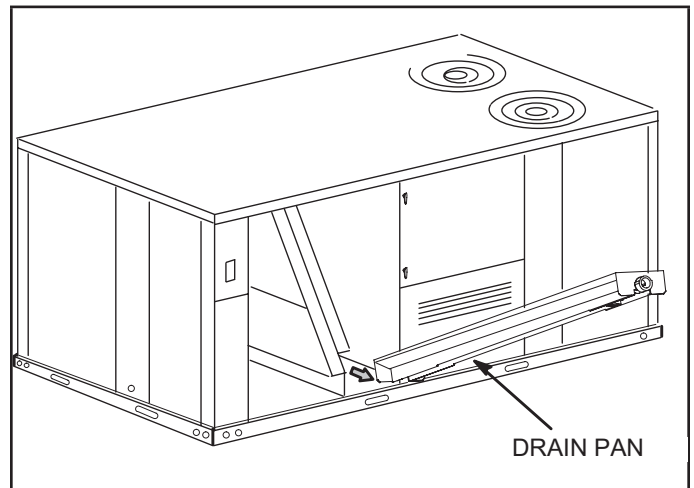

FIGURE 8
5 - Lift front edge of the drain pan (to clear bottom drain plug) and slide drain pan out of unit. See FIGURE 8.
- 5 - Lift front edge of the drain pan (to clear bottom drain plug) and slide drain pan out of unit. See FIGURE 8.